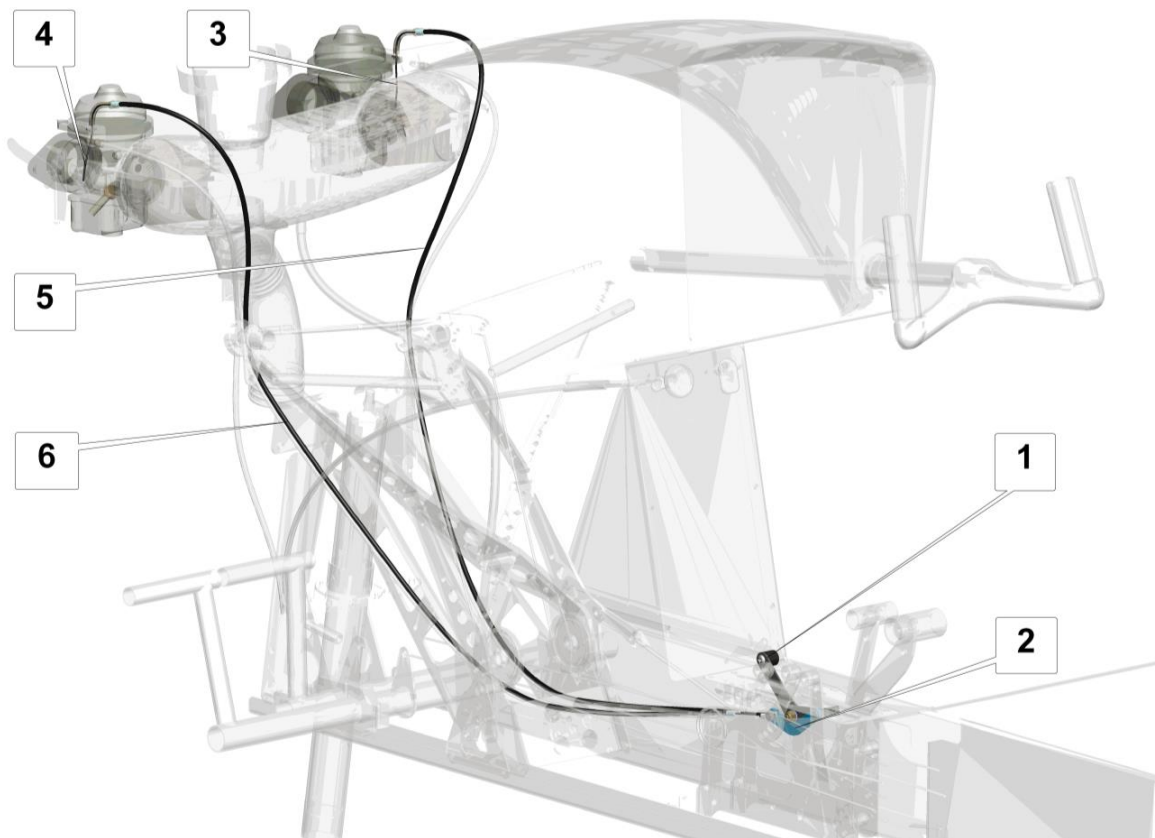

Fig. 10 Engine pre-start mixture control
Engine pre-start mixture control (**Fig. 10**) is achieved using the choke control lever (1), connected with cables to the choke control arms of the right (3) and left (4) carburettor. The cables are passed through the flexible sheaths – the right (5) and the left (6) one.